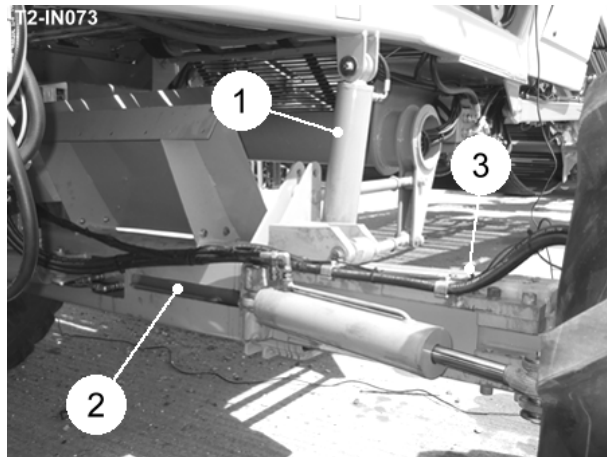

Fig 20
The harvester is fitted with either a beam axle or a goal post axle. On machines fitted with a beam axle, the RH wheel is moved from the transport position to the work position by the tracking ram (item 2, fig 20) within the axle beam. On machines fitted with a goal post axle, the RH wheel tracking ram is mounted on top of the machine between the two axle posts.
On machines fitted with a beam axle, the 'Machine Level' button on the slave box and service terminal screen, operates the levelling ram (item 1, fig 20). On machines fitted with a goal post axle, the button operates twin rams at the bottom of each axle post on both sides of the machine. Optional automatic levelling can be fitted to maintain side-to-side 'horizon' level when operating on undulating ground. The automatic levelling is activated by the button  on the service terminal.
To prevent corrosion and to reduce friction, the RH axle beam (item 3, fig 20) should be regularly lubricated using wax oil.